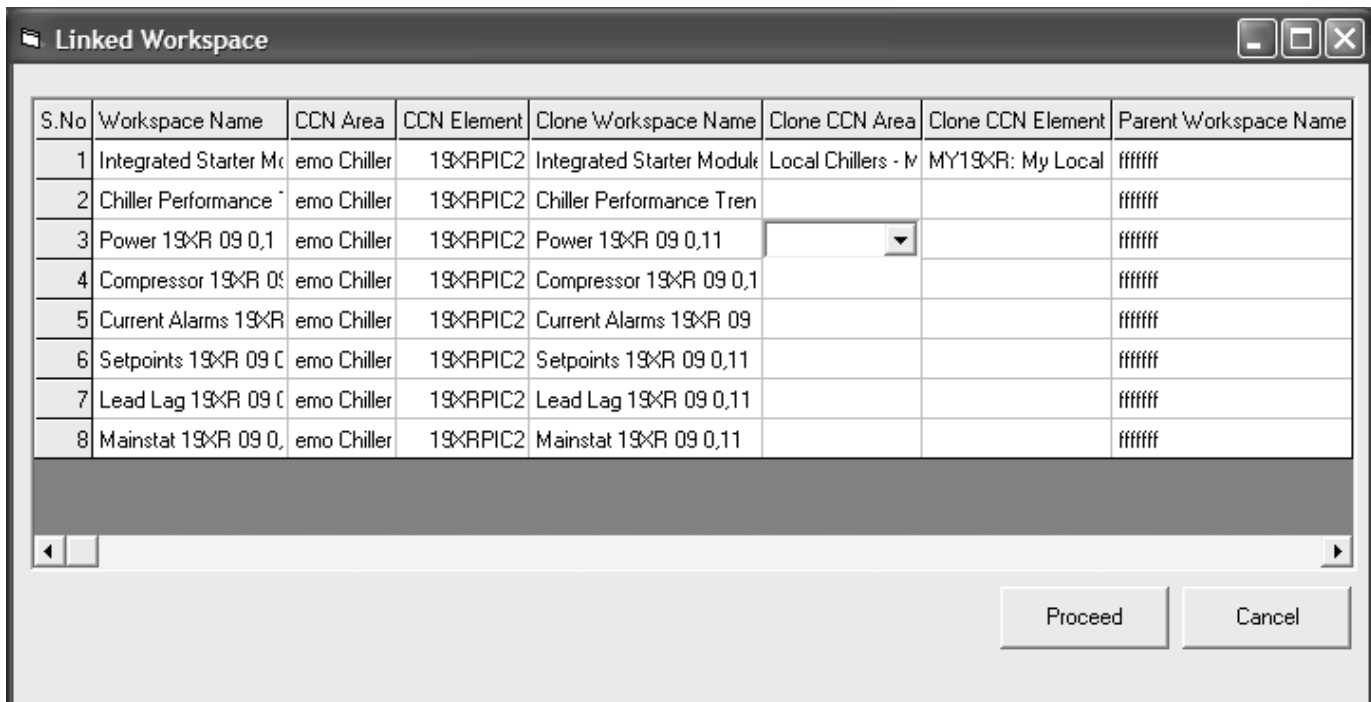

Fig. 24 — Multiple Clone Screen
- After entering the information press “Proceed” (Fig. 24).
32. After entering the information press “Proceed” (Fig. 24).